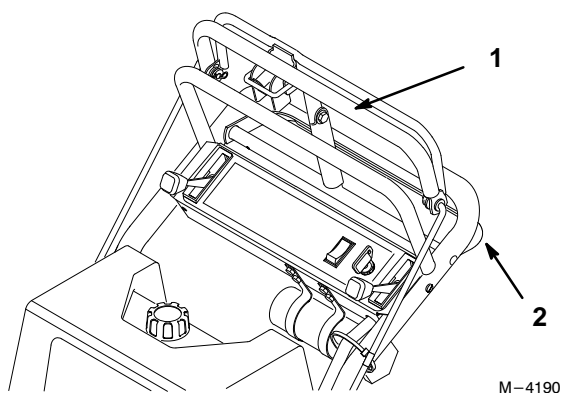

Figure 20
3. Slowly press on the upper control bar to move forward (Fig. 20).
To go straight, apply equal pressure to both ends of the upper control bar (Fig. 20).
To turn, release pressure on the upper control bar side away from the direction you want to turn (Fig. 20).
3. Slowly squeeze on the lower control bar and handle together to move rearward (Fig. 20).